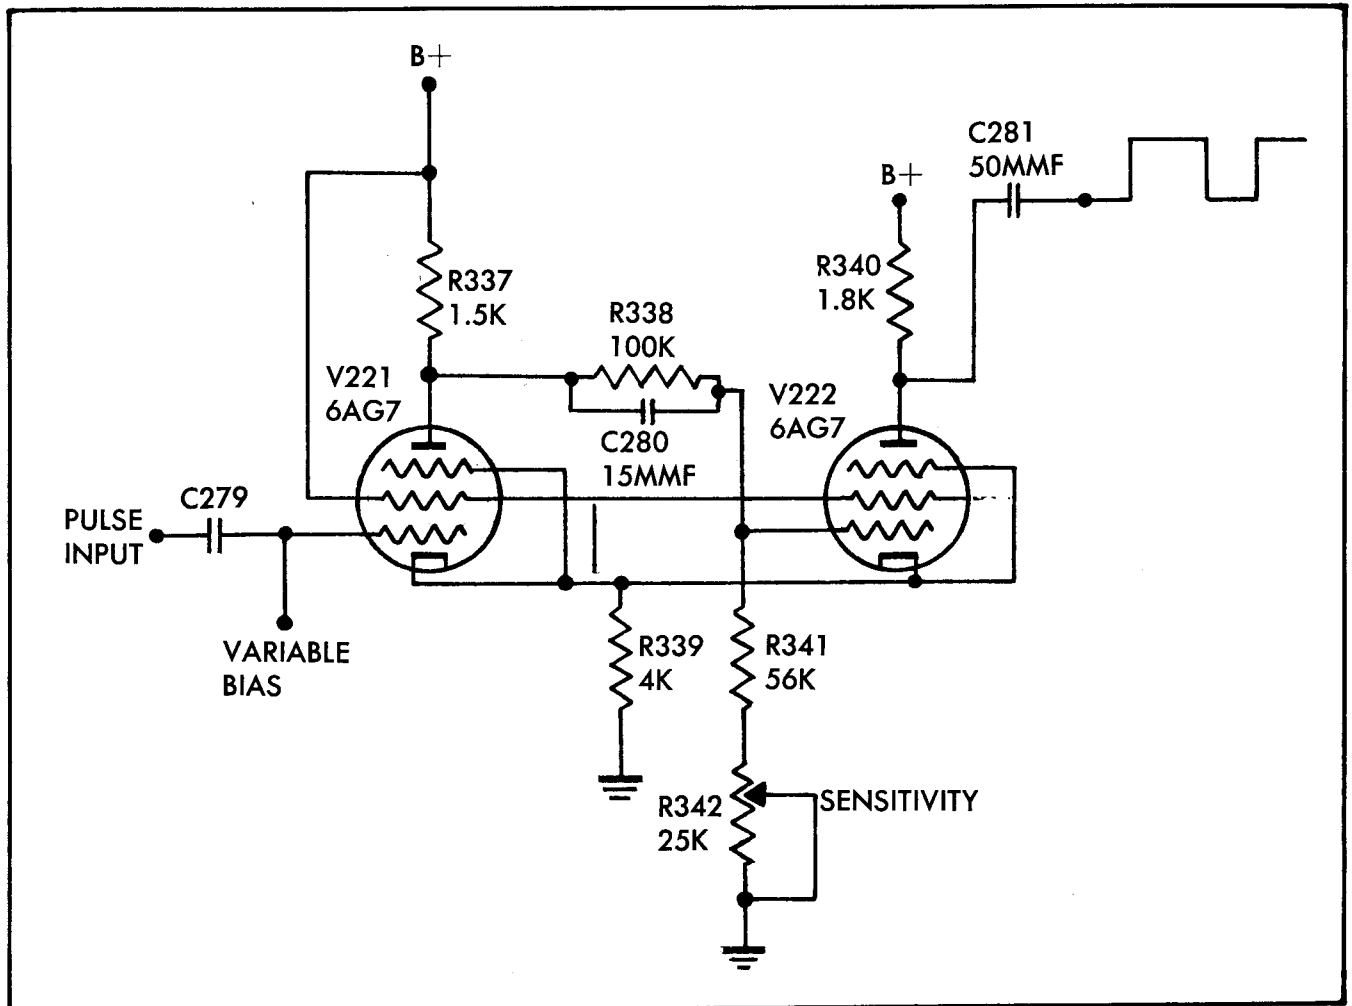

Figure 2-2. Pulse Height Discriminator, Simplified Schematic
(5) Pulse Height Discriminator. (See Figure 2-2.)
resistor R-319, DISCRIMINATOR LEVEL VOLTS, and is incorporated so that it is possible to have triggering on various sized pulses. Adjustment of R-319 varies the grid potential of V-220, hence the plate current flow through the tube. This current flow develops a bias at the cathodes of V-220 and is applied through R-322 to the grid of V-221. The crystal diodes CR-203 and CR-204 are necessary in order to keep the voltage on the grid of V-221 the same as the reference voltage on the cathode of the discriminator level tube V-220. It is possible for rectified grid current from V-221 to build up a bias on the grid of V-221 in reference to the cathode of V-220 if the diodes CR-203 and CR-204 were not present. Two diodes are employed in order to maintain the voltage across them within the rated voltage of the diode. Operation of the discriminator circuit is explained by use of the simplified schematic diagram, Figure 2-2. The purpose of the discriminator, in effect a two-tube trigger circuit, is to reject all pulses which appear at the output of the second decade amplifier smaller than the chosen level. This action produces uniform output pulses which are coupled to the driver stages. The